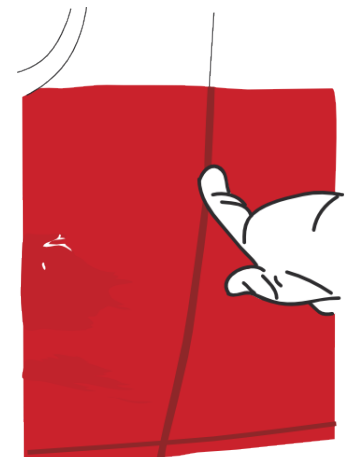

Figure 32
- › Shape the film with your gloved finger on the part's contours. (FIG. 32)